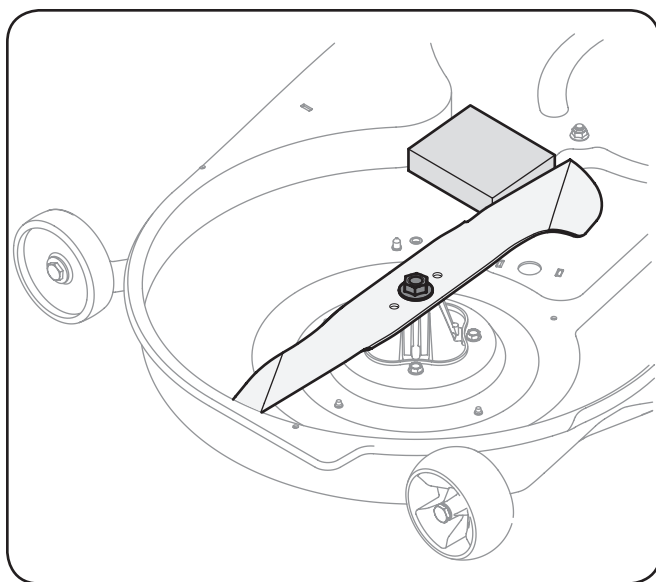

Figure 4-3
2. Place a block of wood between the center deck housing baffle and the cutting blade to act as a stabilizer. See Fig. 4-3.
3. Remove the hex flange nut that secures the blade to the spindle assembly. See Fig. 4-3.